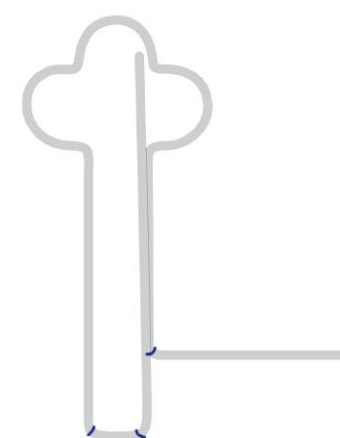

figure 7
- 12 Use flat-nose pliers to make a 90° bend on the left key frame wire on the mark made in Step 9 (Figure 7).